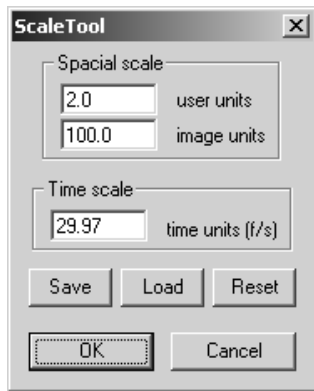

Figure 2. – Scale dialog box.
**Scale** – brings up a dialog box which allows the user to convert pixels (default scale units) to user units. The scale factor is calculated by division of user units by pixel units (2.0/100.0 in the example shown in Figure 2). Spatial coordinates will be multiplied by this scale factor. The scaled values will be displayed on the status line as well as written to the results file. The time scale can be used to convert frames to time units, such as seconds.